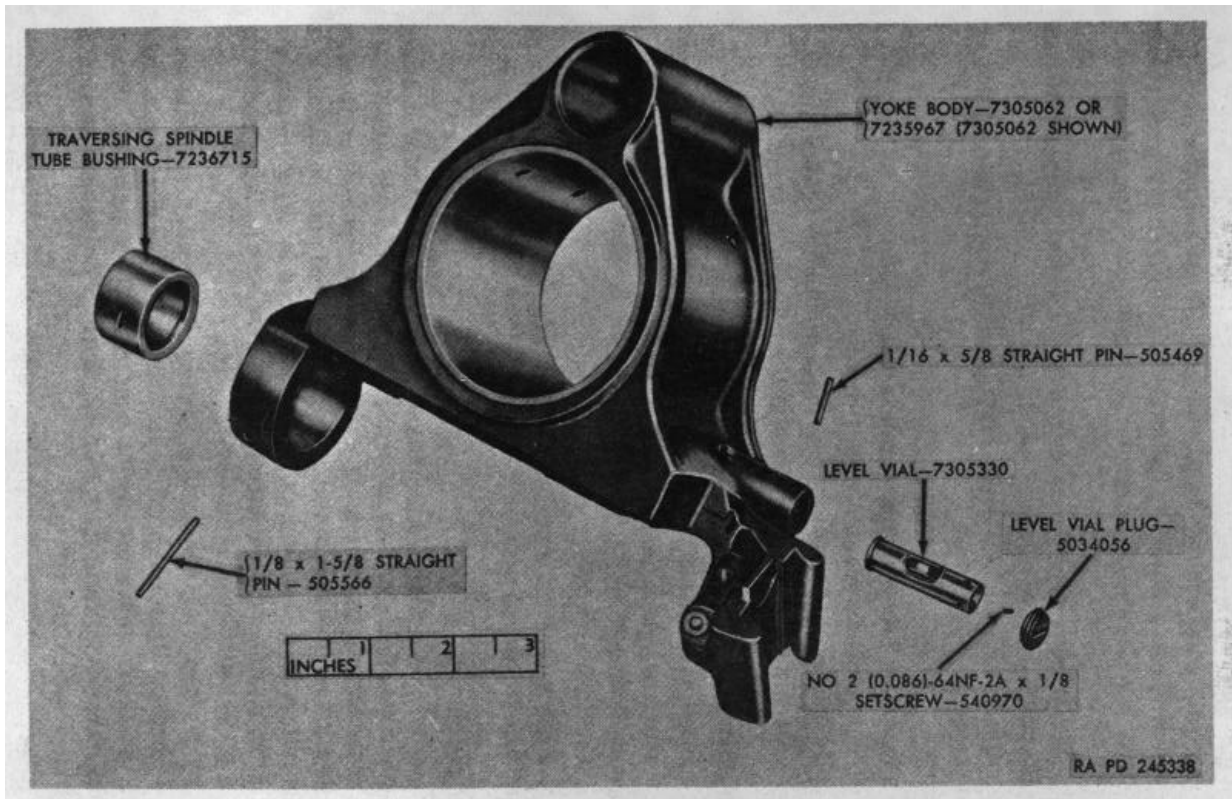

Figure 50. Yoke assembly 7236091 or 7305063-exploded view.
*h.* Disassembly of the yoke assembly (fig. 50) should not be attempted except to replace broken vial or worn bushing. To remove level vial, drive out straight pin which retains level vial plug in level housing of yoke and unscrew plug, loosen adjusting setscrews of level, and remove level from its housing. To remove traversing spindle tube bushing, drive out straight pin and push out bushing (fig. 50).
- a. Insert level vial into yoke body so that level window is aligned with viewing hole, tighten small adjusting No. 2 (0.086)-64NF-2A x 1/8 setscrews so bubble is centered when centerline through spindle lug holes is horizontal, screw in level vial plug so that hole in plug aligns with that in yoke body, and drive in 1/16 X 5/8 straight pin (fig. 50). Insert new traversing spindle tube bushing and drive in 1/8 x 1 5/8 straight pin (fig. 50).